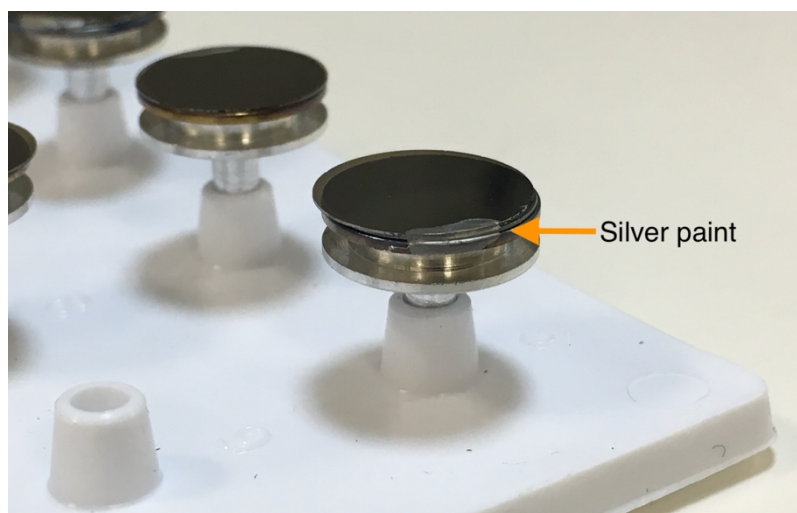

Figure 2. Mounting coverslips on SEM stubs.
18. Paint part of the edge of the coverslip and stub with silver paint so there is a conductive path from the glass to the metal of the stub (Fig.2).